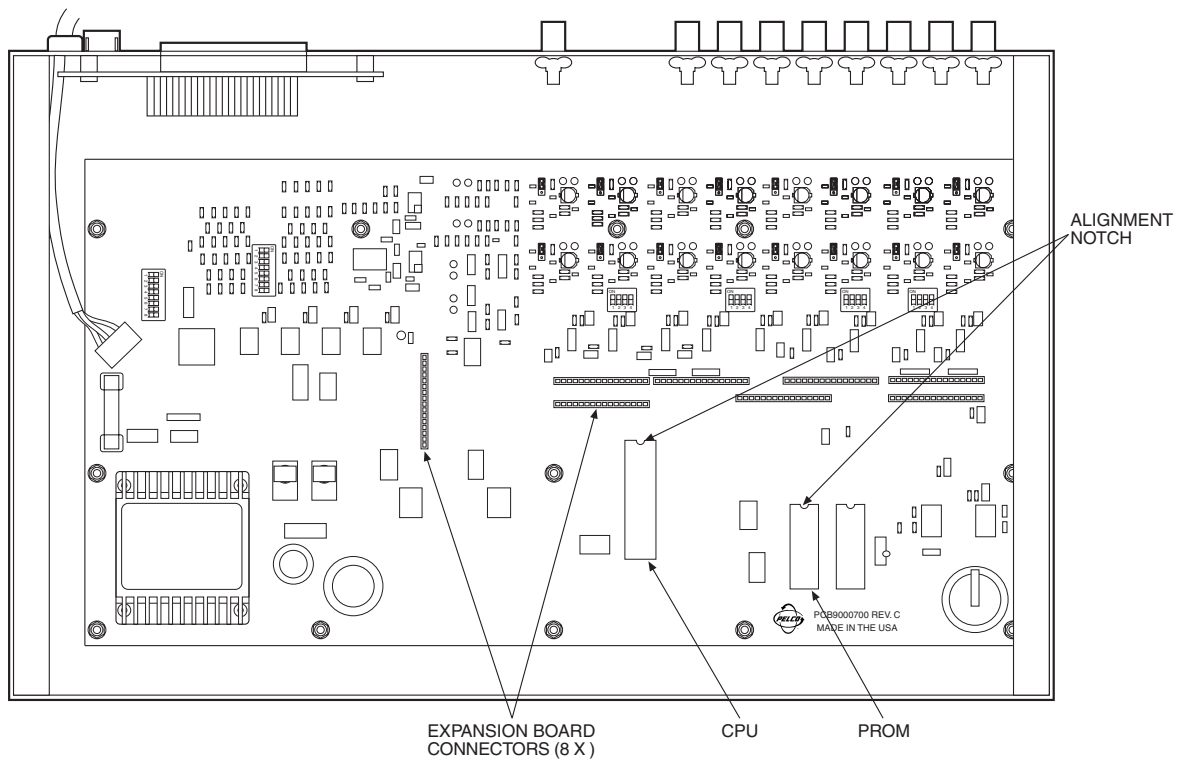

Figure 1. CM6700 Motherboard without Two-Monitor Expansion Card
4. Remove the old CPU and PROM chips (see Figure 1) from their sockets using the chip puller included in this package. Work the parts out slowly to avoid damaging the sockets.
6. Orient each chip using the alignment notch as a guide (see Figure 1). Verify pin-to-socket alignment and carefully press each chip into its socket until completely seated. **If you have an MXB2, proceed to step 10.**